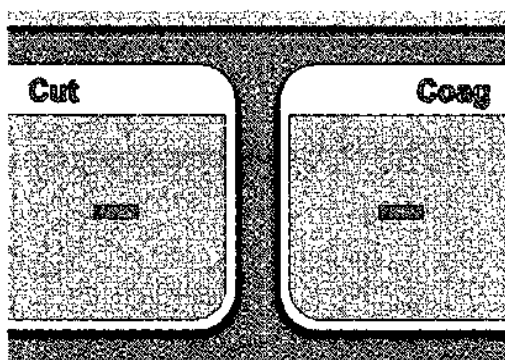

Figure 6. Front Panel Showing Operational Screen with No Devices Connected
- If the Generator is powered on with *no electrosurgery devices connected* or with just the Patient Return Electrode connected, the Generator displays the operational screen with small dashes in the settings positions and no mode specified. The front panel showing the operational screen with no devices connected is shown in Figure 6.